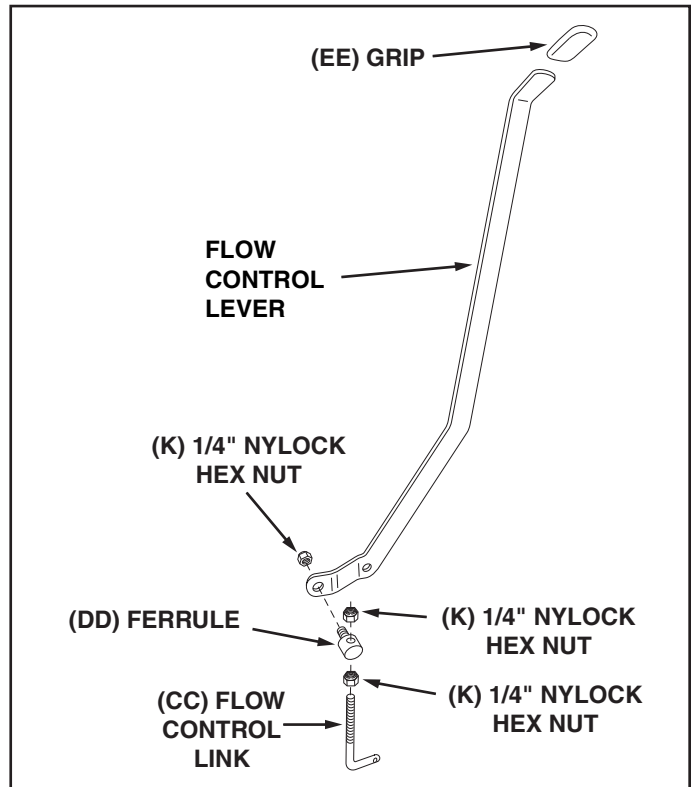

FIGURE 7
16. Screw a 1/4" nylock hex nut all the way onto the flow control link. Assemble the ferrule onto the link and then start a 1/4" nylock hex nut one or two turns onto the link. See figure 7.
17. Assemble the ferrule into the hole at the end of the flow control lever using a 1/4" nylock hex nut. **Tighten** the nut, leaving it loose enough that the ferrule can pivot. See figure 7.
18. Assemble the grip onto the end of the flow control lever. See figure 7.